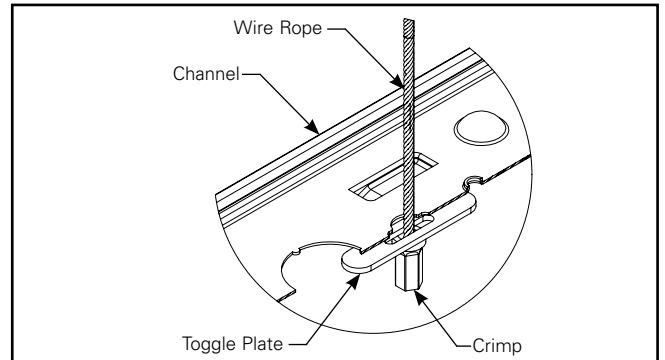

Figure 4.3.
- After inserting, ensure the toggle plate thickness surface parallel to top surface and inside the channel (Figure 4.3).